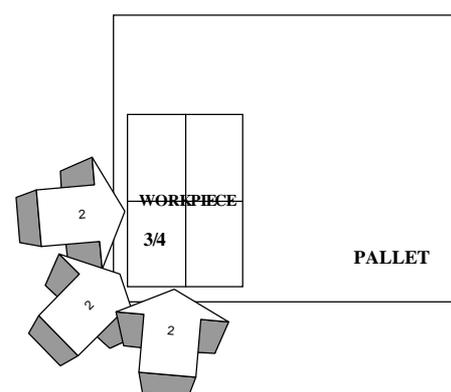

Fig 6.5 Reference 4
4. If all step approach direction are on 4/4 area on the basis of work position which is to be stacked on the pallet, select “3” as the work approach direction (refer to fig 6.5)